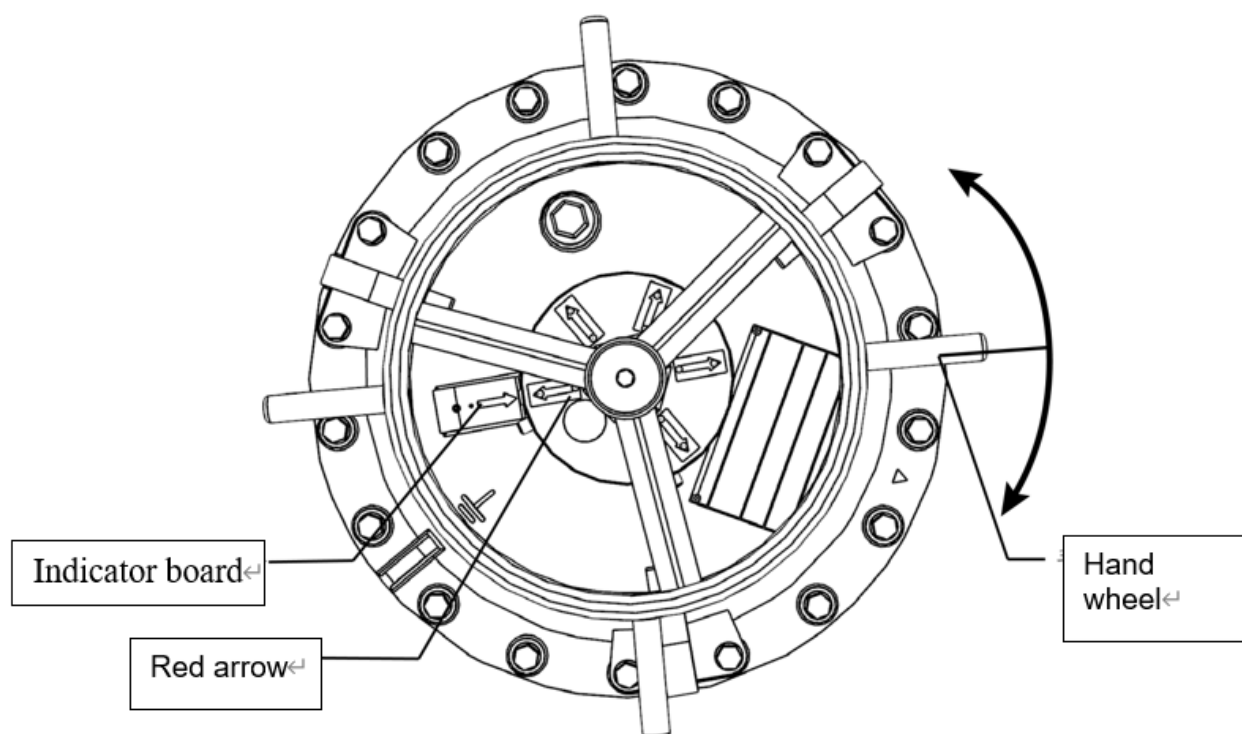

Figure.11 Turn the hand wheel and confirm that the indicator board is aligned with the red arrow
9.1.2 Turn the hand wheel and observe whether the arrow is aligned with the red arrow on the indicator from the observation window. The alignment indicates that the gear change is successful. (Fig.11)